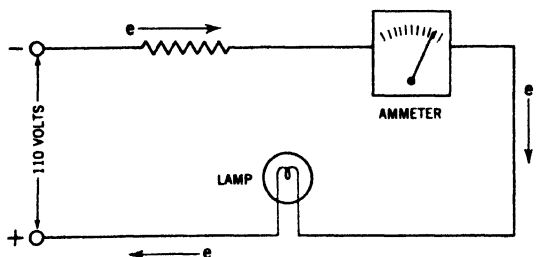

Fig. 29-11. The series circuit. Electrons can follow only one path from negative to positive.
**Series Circuits.** In the *series circuit*, the electrons can follow only one path, from the negative to positive (Fig. 29-11). The electromotive force (110 volts) forces the electrons through this circuit. Since there is only one path, the number of electrons per